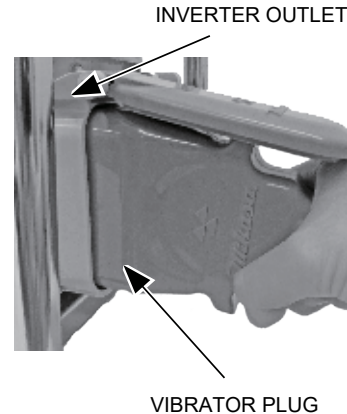

Figure 6. Connecting Work Machine to Inverter
- Insert the male plug of the work machine securely into the end of the inverter output outlet (Figure 6).